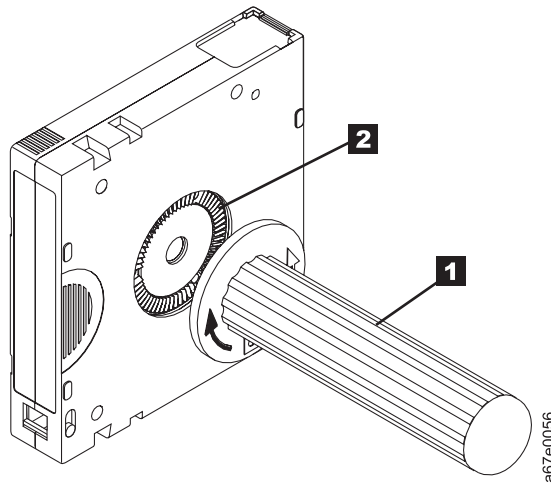

Figure 9-10. Rewinding the tape into the cartridge
5. To rewind the tape, insert the cartridge manual rewind tool (**1** in Figure 9-10) into the cartridge's hub (**2** in Figure 9-10) and turn it clockwise until the tape becomes taut.